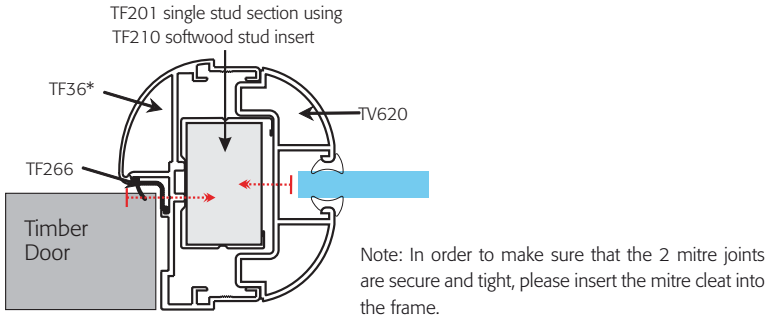

Fig. 5
The A20 door stop should not be positioned too close to the base of the door frame as with continued use this will put undue stress on the hinge fixings. Position the door stop further back towards the leading edge of the door leaf (see Fig. 5).
### Method of build fig.5
- 6 Place TF201 & TF210 together to form the single stud section using softwood stud insert, then locate this in the centre of TF36\* & TV620 as shown in Fig. 5